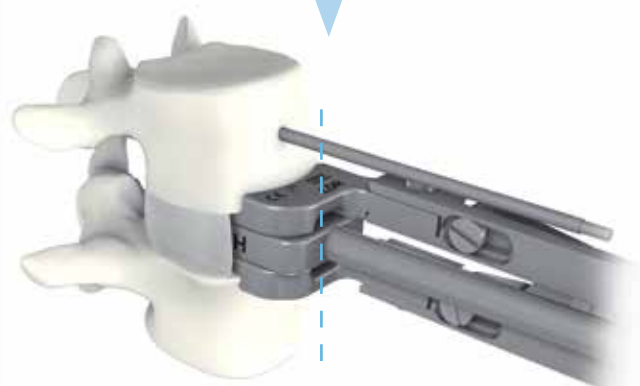

Figure 11
- Stop the insertion of the distractor when its posterior face is aligned with the posterior face of the bilateral distractors (**Figure 11**).
- The height of the prosthesis is determined per-op with the parallel distractors inserted thru the bilateral distractors assembled onto the distractor forceps. Insert first the 10 mm, if it fits properly, 10 mm high prosthesis might be chosen. If it does not fit the space tightly, then use the 12 mm parallel distractor, and depending on the fit select either 11, 12 or 13 mm high prosthesis instead (**Figure 11**).